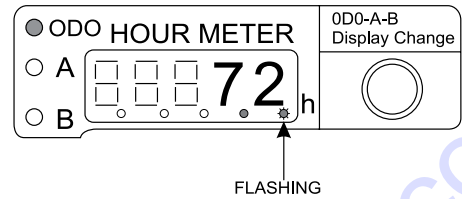

Figure 27. Hour Meter (Engine Start)
9. Verify that right-most decimal (Figure 27) on the hour meter display is **flashing**.